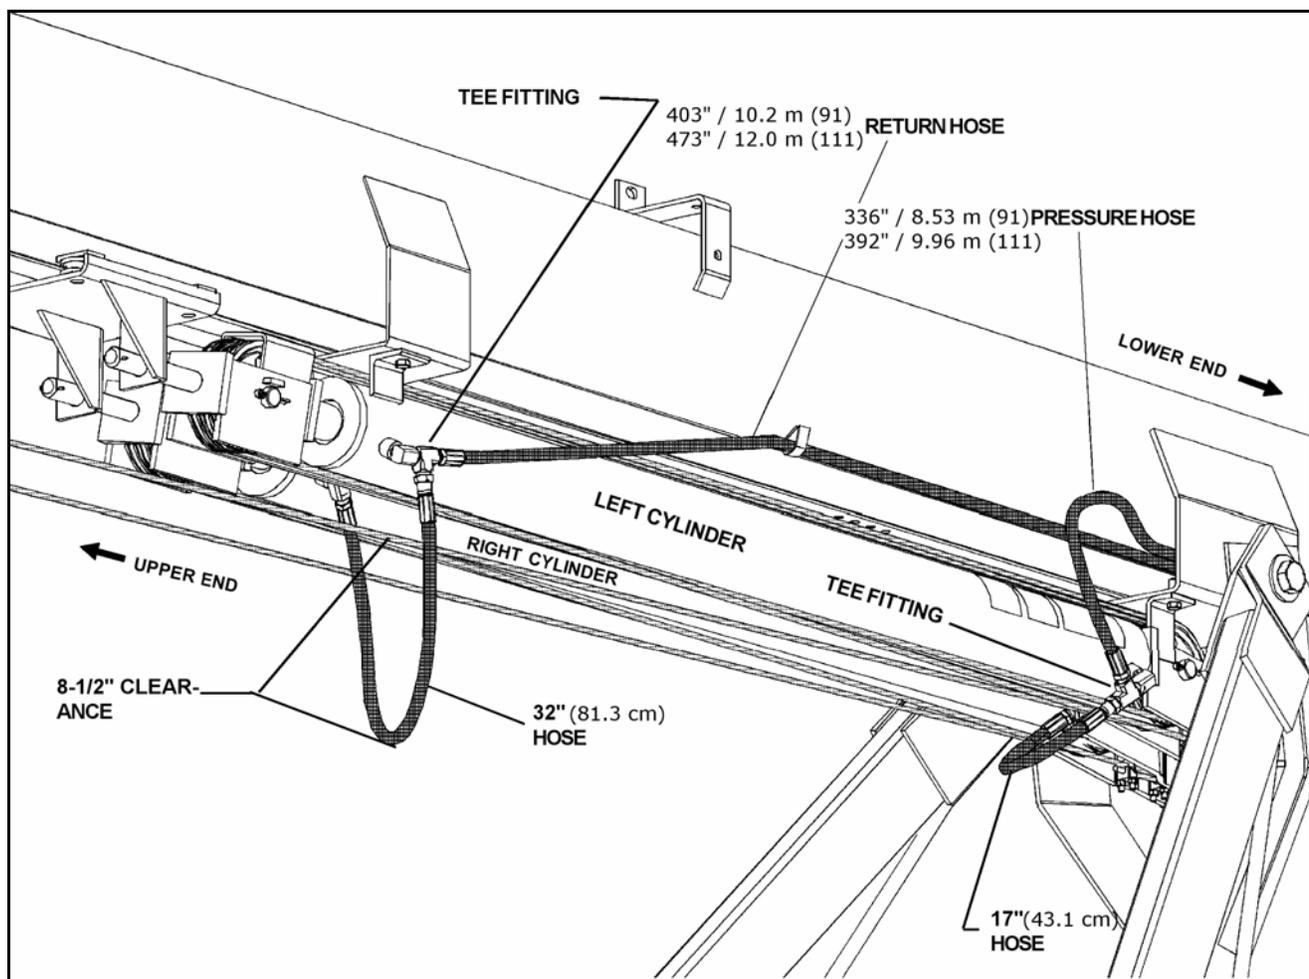

Figure 3.21
1. Position both elbow fittings on **right lift cylinder**. The **lower** one should face forward and downward at approximately 45°. The **upper** one should face rearward and downward at approximately 45° (Figure 3.21). Make certain they are tight.
Note: Before attaching short connector hydraulic hose to left side lift cylinder, make certain lift cables are tightly stretched and that this hose is positioned beneath lift cable on left side lift cylinder (Figure 3.21). If lift cable is not installed above this hose, it could result in the hoses wearing through during operation, causing a hazardous condition.
5. Secure the tee fittings to the left cylinder elbow fittings and position them as shown in Figure 3.21. Make certain they are securely tightened.
7. Check upper 32" (81.3 cm) cylinder-connector hose position to ensure there is 8-1/2" clearance to lift cables as shown in Figure 3.21.
10. Thread hoses through back arm attach bracket as shown in Figure 3.21.